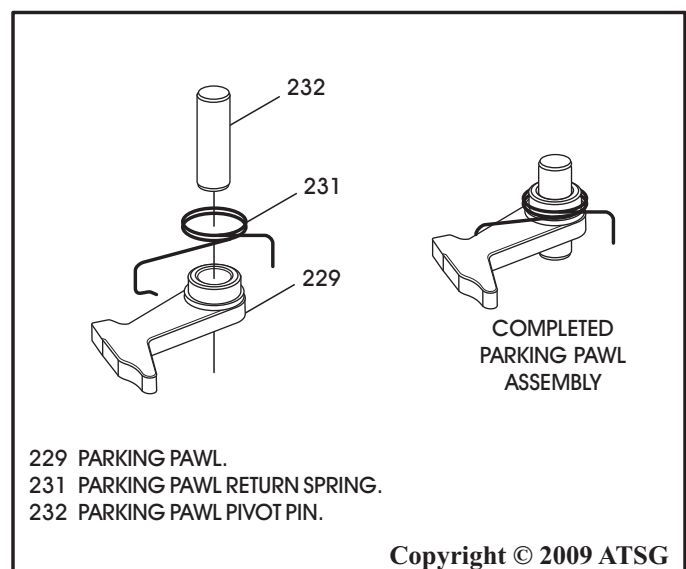

Figure 151
6. Assemble the parking pawl, the parking pawl return spring and parking pawl pivot pin, as shown in Figure 151.